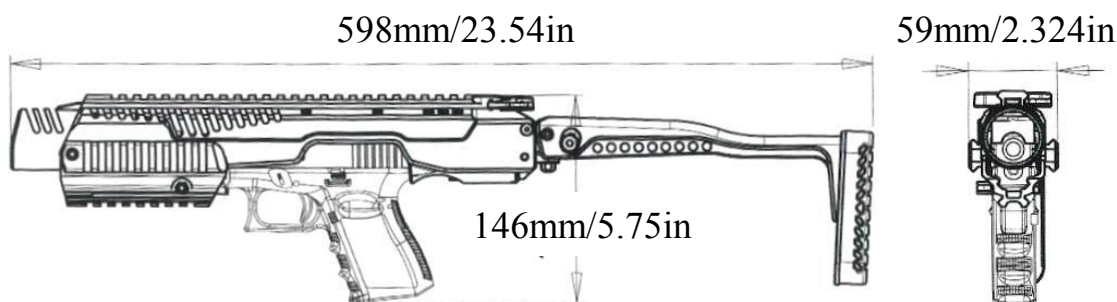

Fig. 15
Step 2. Adjust the Buttstock (8) to your desired position and then tighten the screw back into place (8.1) (Fig. 15).